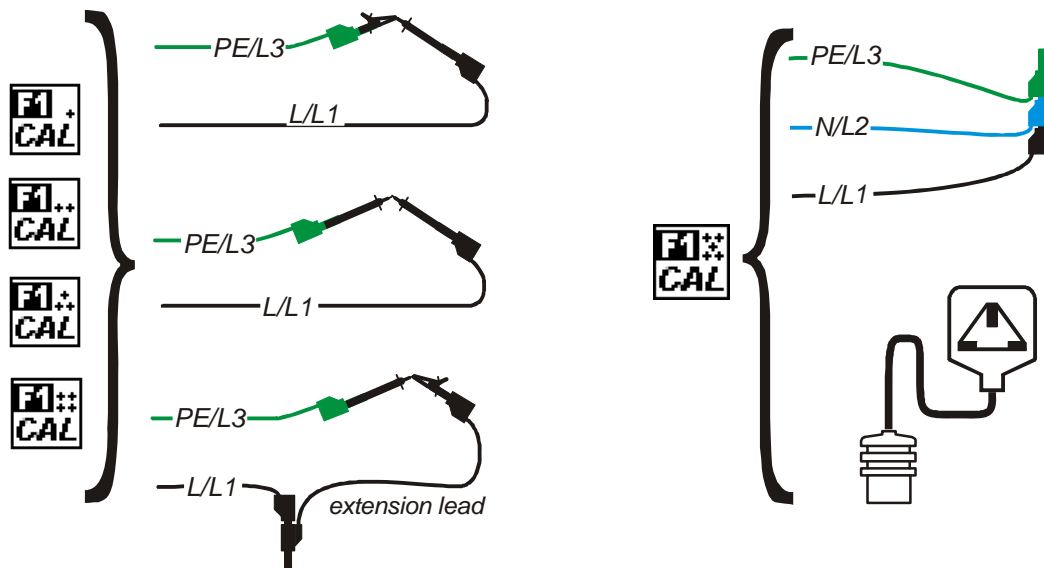

Figure 5.9: Shorted test leads
- ❑ **Connect** test cable to the instrument and short terminals (see figure 5.9).